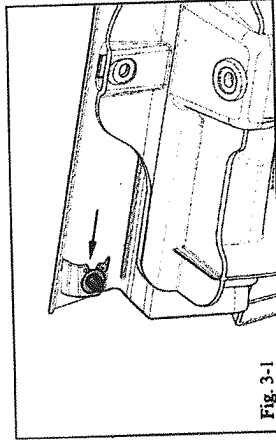

Fig. 3-1
- (a) Select and remove one (1) of the best plastic clips from the OE rocker panel molding for reuse.
- (c) Insert the clip from Step 3(a) into the running board dog house at the front location (Fig. 3-1).